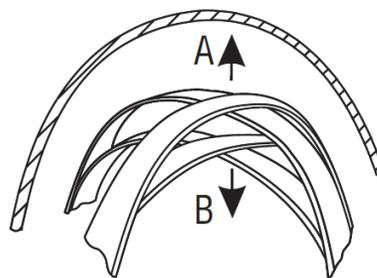

Figure 2 Protective Helmet
6. Push the top crown strap toward the crown of the protective helmet as show by arrow A in Figure 2.
NOTE: The bottom crown strap will move as shown by arrow B in Figure 2.